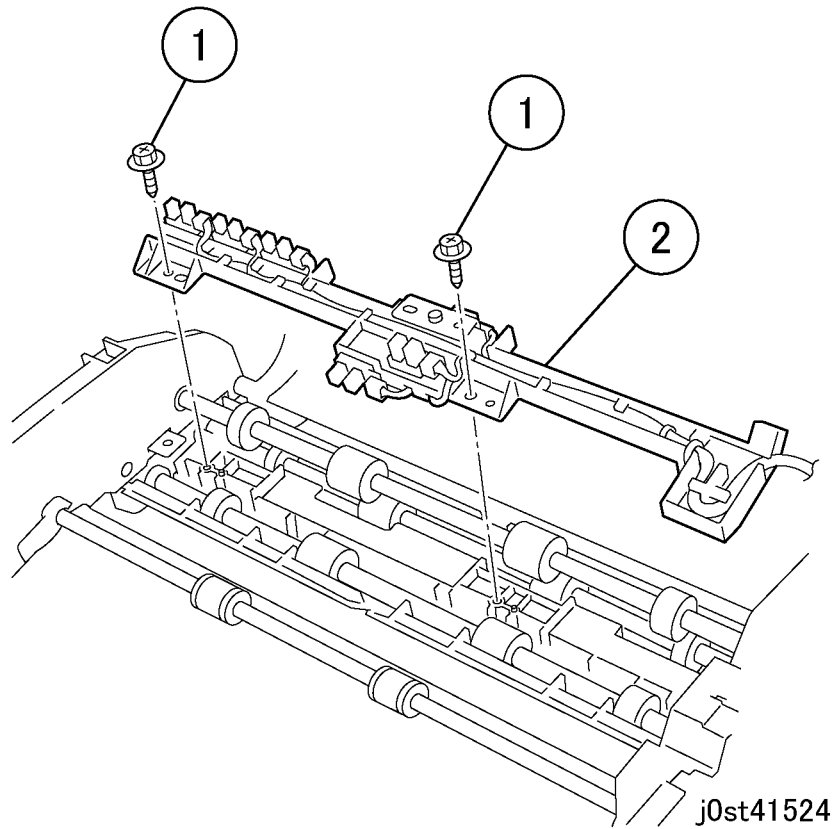

Figure 4 Removing the sensor holder (j0st41524)
10. Remove the sensor holder. (Figure 4)